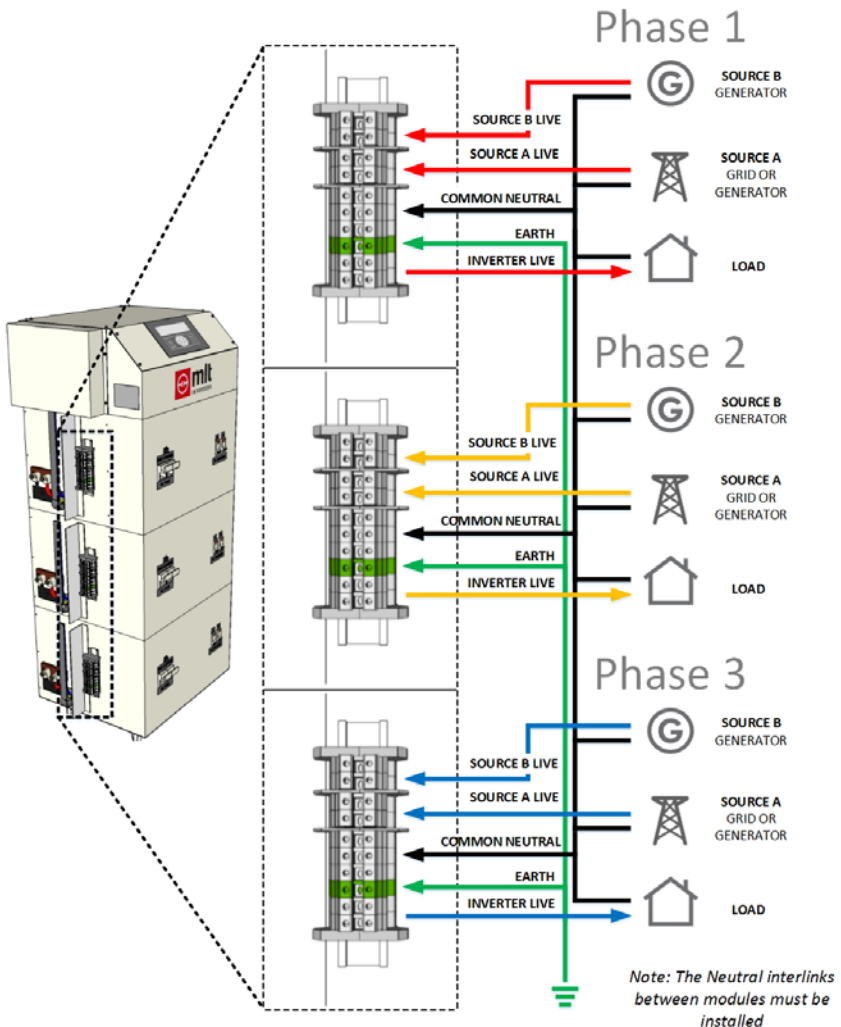

Figure 23: 3-Phase AC Input/Output Connections
11. Three phase installation which will always have three Inverter Modules, i.e. one for each phase (see Figure 23). If both Source A and Source B inputs are used correct phases are connected to each Inverter Module. Top module = Red Phase, Middle Module = Yellow Phase and Bottom Module = Blue Phase. Earth and Neutral must be connected.